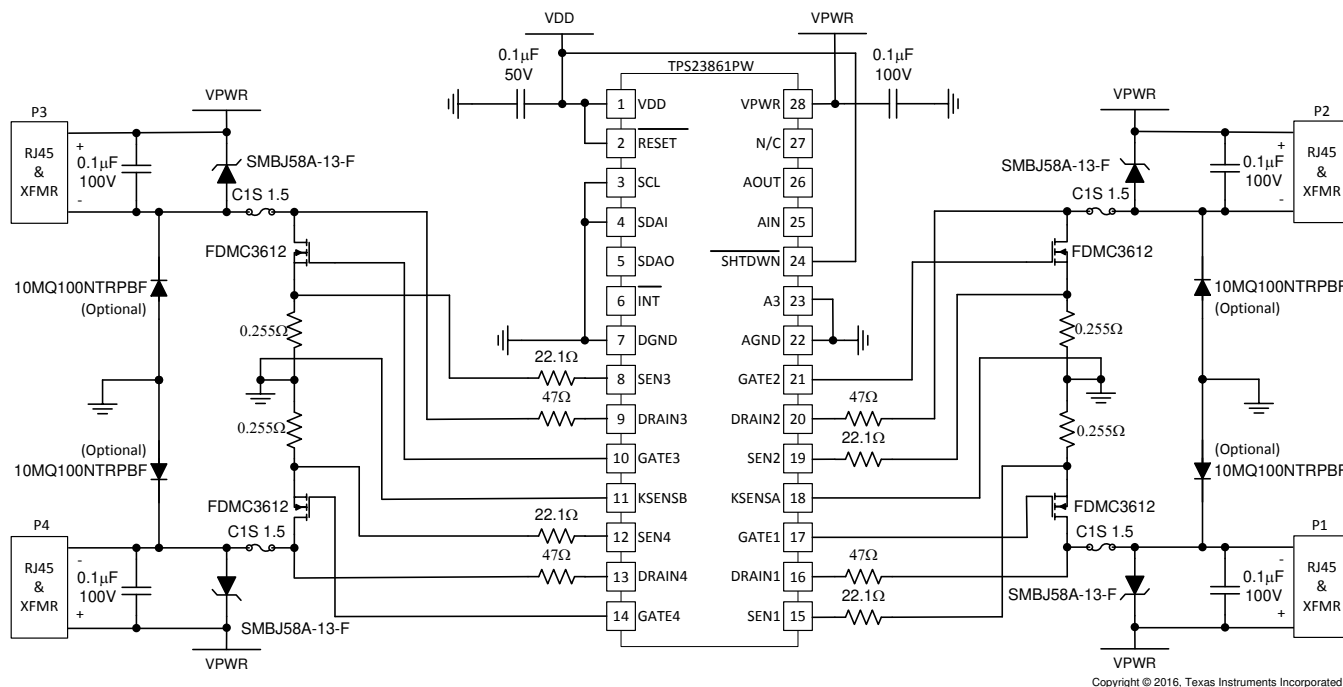

Figure 46. Automatic 4-Port Operation Schematic
Power-over-Ethernet (PoE) is a means of distributing power to Ethernet devices over the Ethernet cable using either data or spare pairs. PoE eliminates the need for power supplies at the Ethernet device. Common applications of PoE are security cameras, IP Phones and PDA chargers. The host or mid-span equipment that supplies power is the Power Source Equipment (PSE). The load at the Ethernet connector is the Powered device (PD). PoE protocol between PSE and PD controlling power to the load is specified by IEEE Std 802.3at-2009. Transformers are used at Ethernet host ports, mid-spans and hubs, to interface data to the cable. A DC voltage can be applied to the center tap of the transformer with no effect on the data signals. As in any power transmission line, a relatively high 48 V is used to keep current low, minimize the effect of IR drops in the line and preserve power to the load. Standard POE delivers approximately 13 W to a type 1 PD, and 25.5 W to a type 2 PD. Figure 46 shows the overview schematic of a POE port.
The schematic of Figure 46 depicts automatic mode operation of the TPS23861, providing turnkey functionality ready to power PoE loads. No connection to the I2C bus or any type of host control is required. In Figure 46 the TPS23861 automatically: